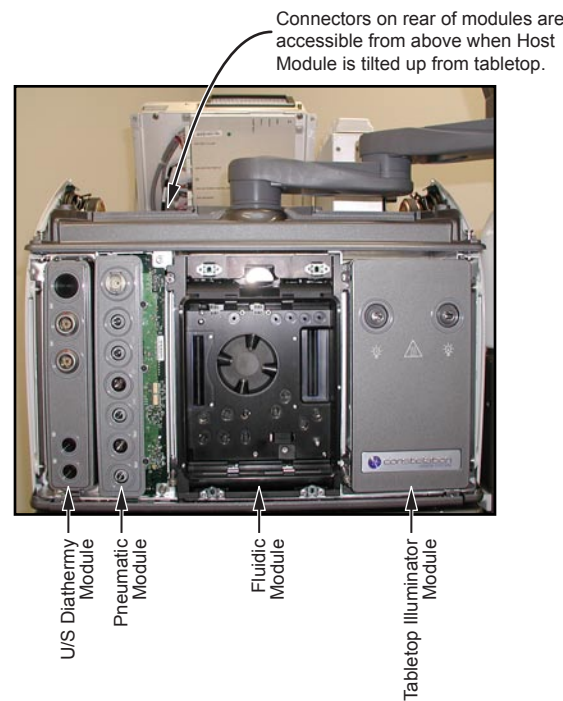

Figure 3-14 Modules With Front Panel Removed
- 18.3 Loosen four captive setscrews on front of Fluidics Module (see Figure 3-14).
- 19.3 Loosen two captive set screws at front of Pneumatic Module (see Figure 3-14).
- 20.3 Loosen four captive setscrews on front of U/S Diathermy Module (see Figure 3-14).